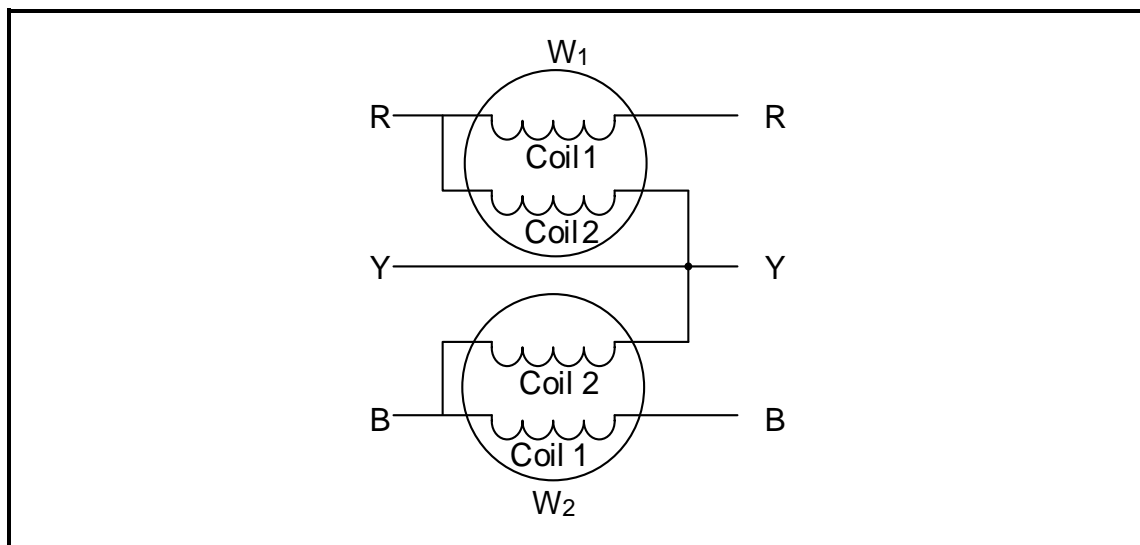

FIGURE 4.6: TWO-WATTMETER METHOD
- 4.6 Refer to FIGURE 4.6 below and answer the questions that follow. The readings on the wattmeters are $W_1 = 960 \text{ W}$ and $W_2 = 870 \text{ W}$.